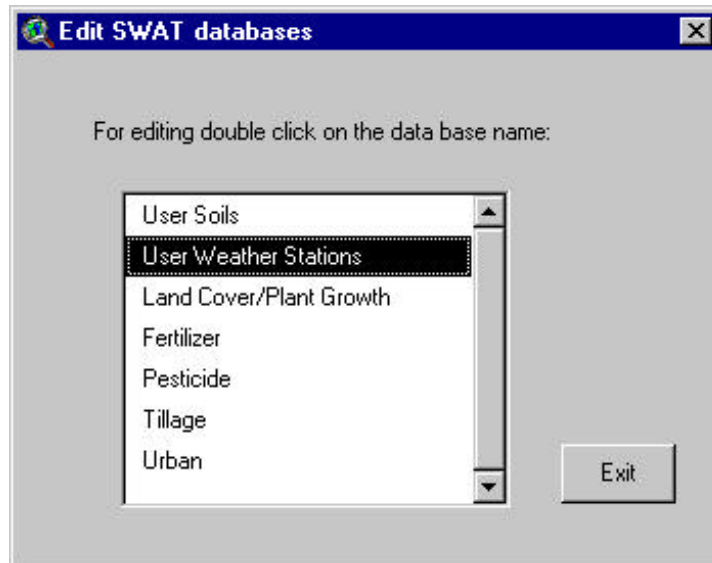

Figure 14.14
1. Double-click **User Weather Stations** on the list of databases (Figure 14.14).